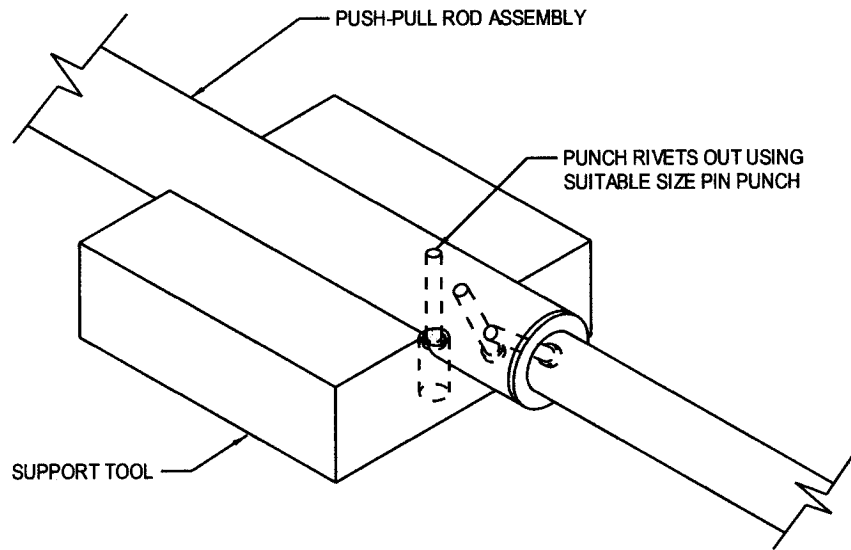

Figure 3. Rivet Removal
- 6.3.3 Place the push-pull rod onto the support tool with the upper rivet tail in the relief hole (refer to Figure 3) and support the opposite end of the rod.